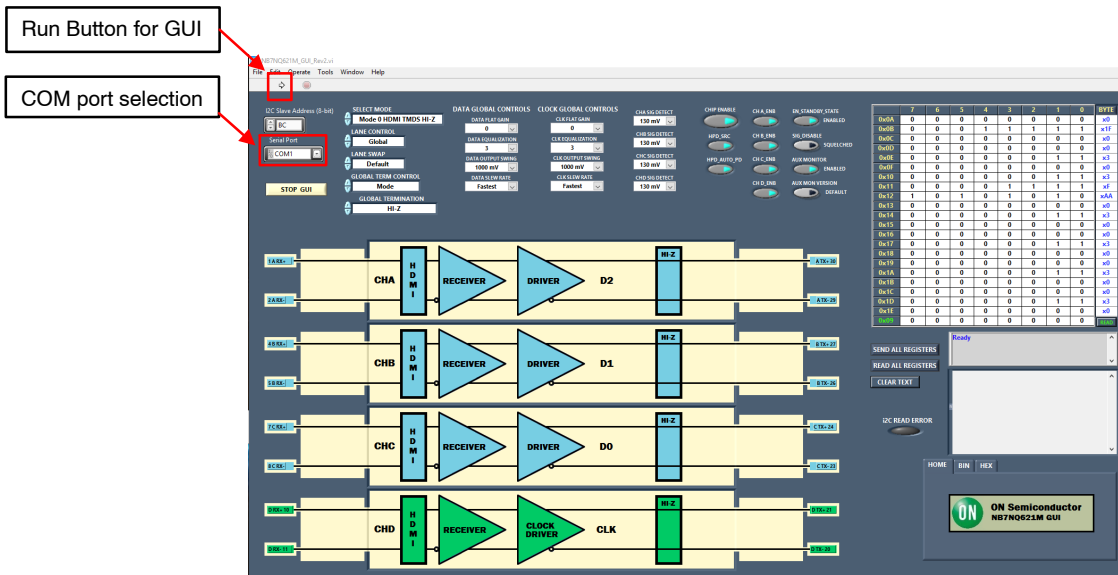

Figure 6. GUI Overview
1. *GUI Overview:* Figure 6 is the view of the GUI on start up. The GUI will open with all of the settings the same as the NB7NQ621M's default register settings.